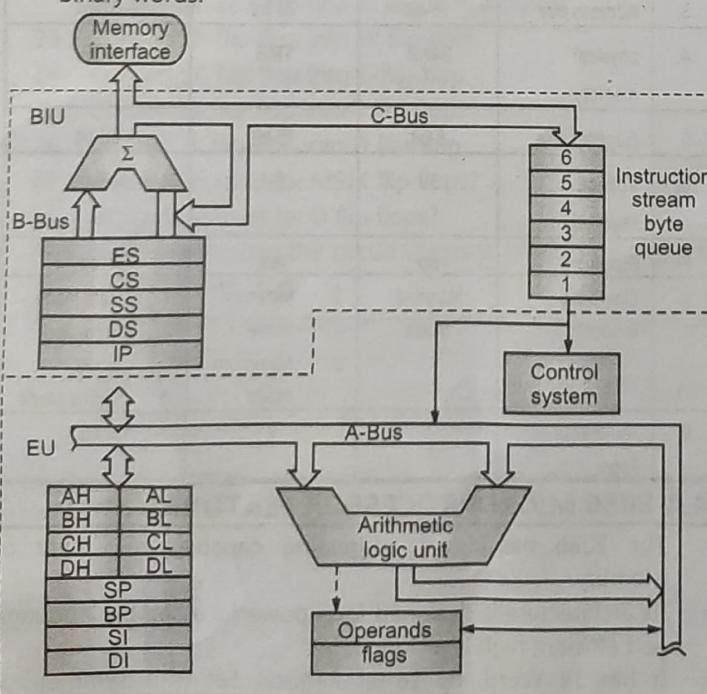

Fig. 4.2 : Block diagram of 8086
2. Execution Unit (EU)
- As shown in the block diagram of Fig. 4.2 above. These units can interact directly but for most of the part perform as separate units of processors and hence the speed of processing increases.